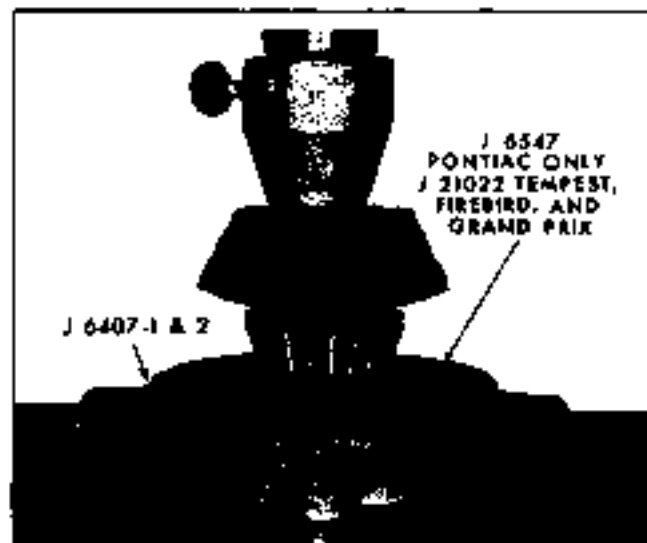

Fig. 4A-42 Installing Rear Pinion Bearing
6. Check preload by using a lb. in. torque wrench (Fig. 4A-43).